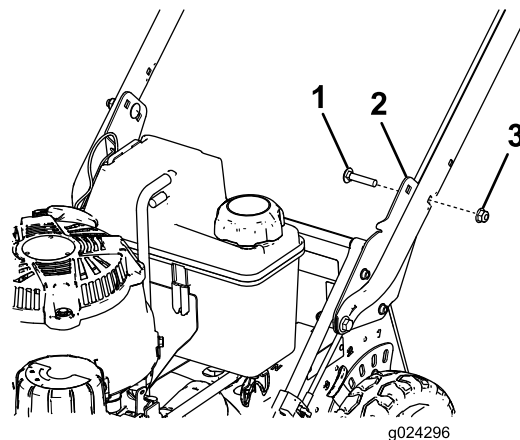

Figure 5
- Handle bracket (2)
- Secure the handle onto the handle brackets at your desired handle height with 2 carriage bolts (5/16 x 1-1/2 inches) and 2 flange nuts (5/16 inch) as shown in Figure 5.